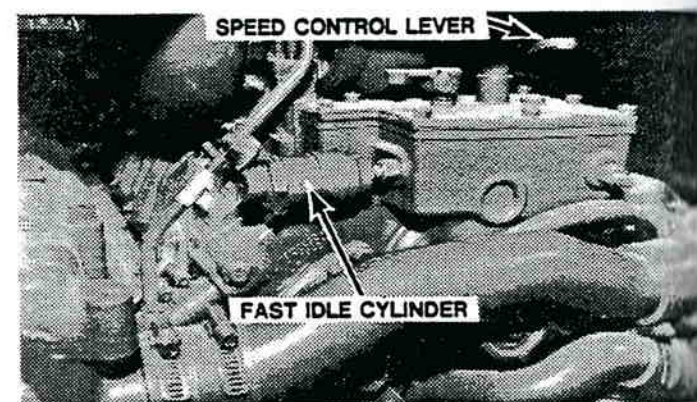

Figure 8-7. Control Lever and Fast Idle Cylinder.
4. Set the speed control lever (figure 8-7) in the maximum speed position. Using a tachometer, check and record the engine rpm. This is the maximum no-load low engine speed (approximately 1850 rpm) which will be restored at the end of this procedure.